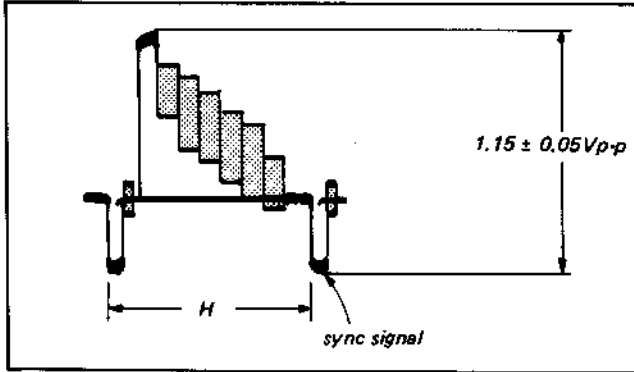

Fig. 4-15.
- (1) Supply the VTR with the colour bar signal and set up the E-E mode.
- (2) Connect the oscilloscope to TP8 (pin 24 of IC1).
- (3) Adjust RV1 for maximum output level of the video signal and then adjust RV9 so that the output level of the video signal becomes  $1.15V \pm 0.05V_{p-p}$ . (See Fig. 4-15).